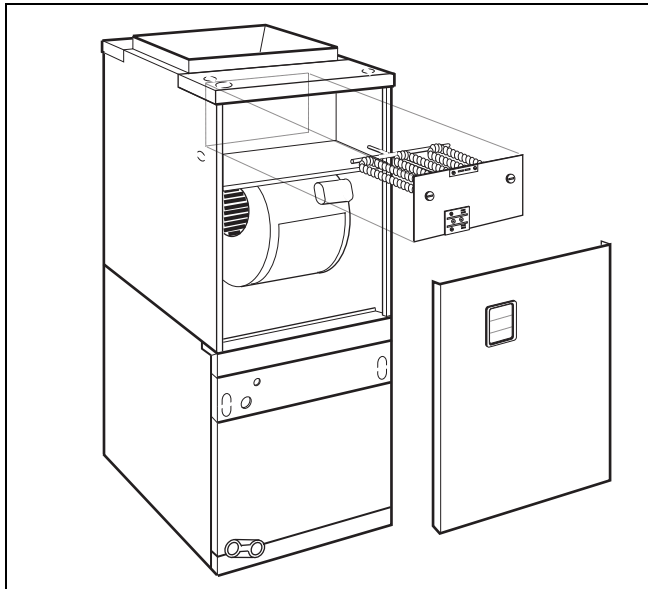

FIGURE 4: Heater Installation
2. Remove air handler unit blower access panel. See Figure 4.